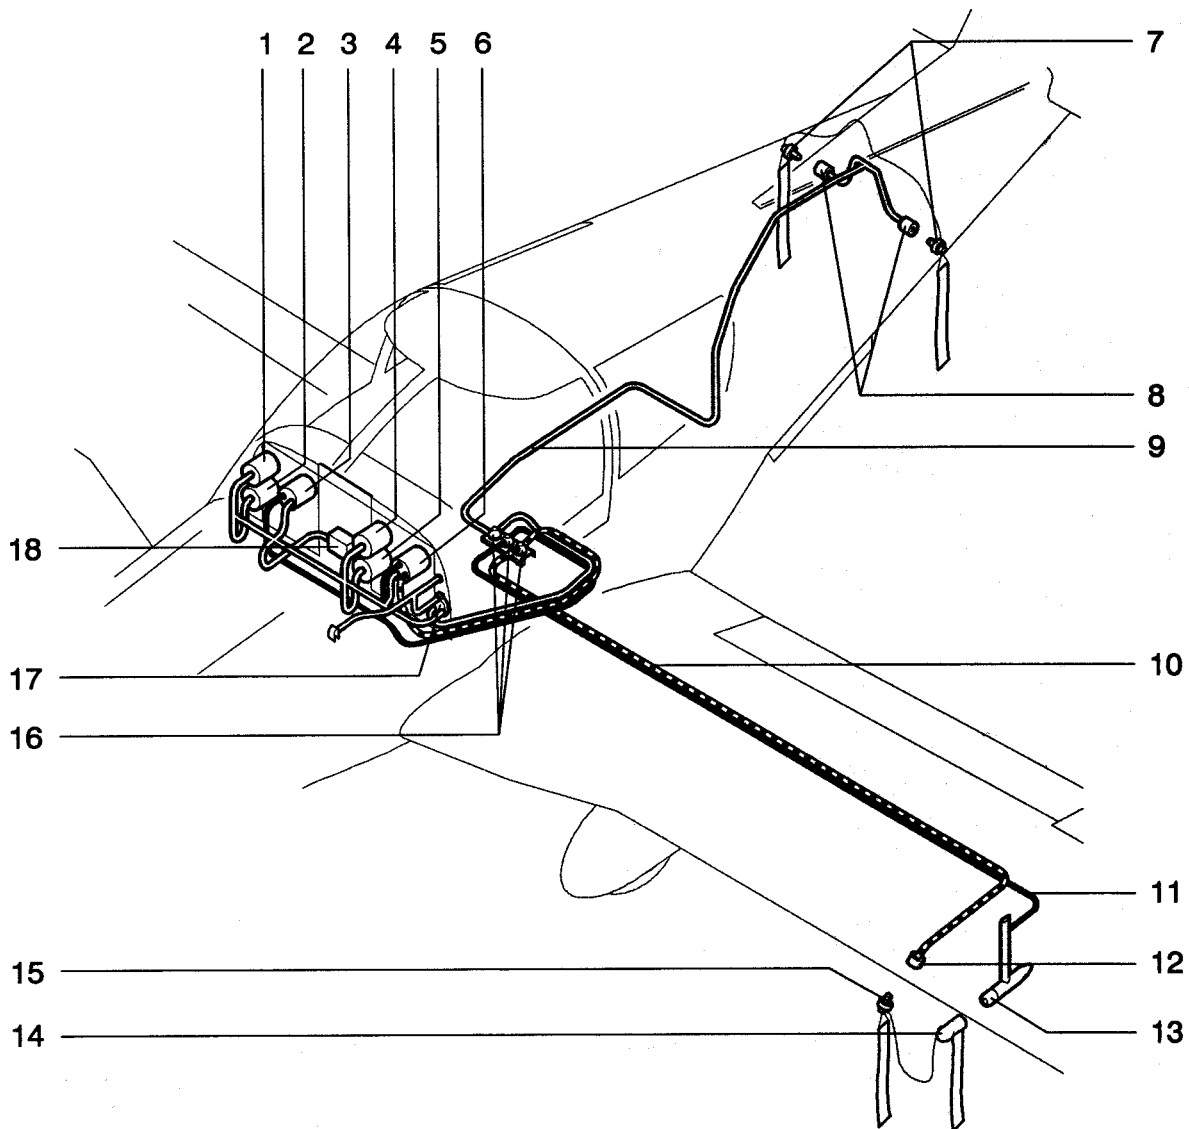

Fig. 7-21 Pitot-Static and Stall Warning System
Total (pitot) pressure for the airspeed indicator is supplied from the pitot-tube (13) installed on the bottom of the left wing (Fig. 7-21). Static pressure for the airspeed indicator, altimeter and vertical speed indicator is picked-up by the static pressure probes (8) on both sides of the rear fuselage in front of the tail.